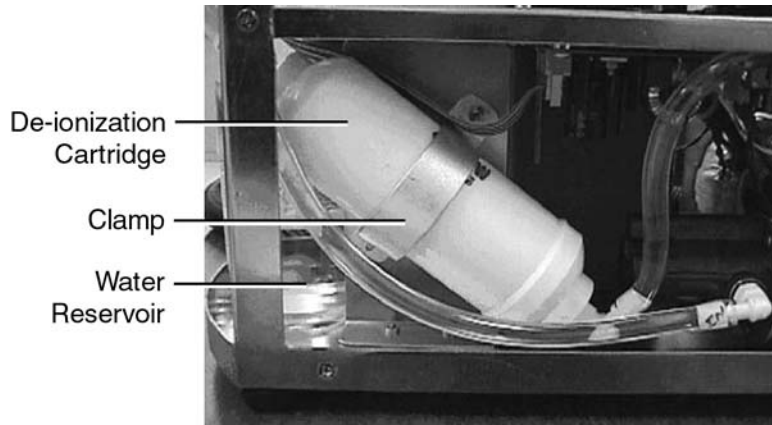

Figure 5-1: Cooling System in the Power Supply
- 6) Disconnect the hose from the top of the de-ionization cartridge, Figure 5-1.
- 7) Disconnect the hose from the bottom of the de-ionization cartridge, Figure 5-1.